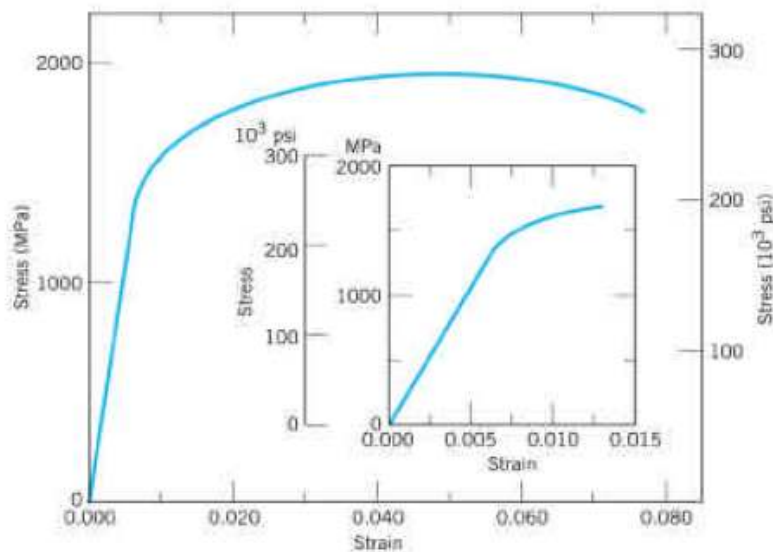

Figure 1. Stress strain curve for high strength steel
- a. Shown is a typical stress-strain curve for this material (Fig 1). Label the yield stress and ultimate tensile stress.